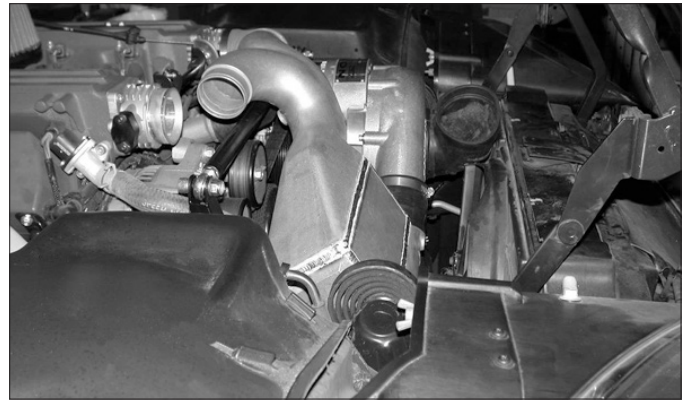

Fig. 9-b
9. Install the aftercooler core assembly between the supercharger discharge and the throttle body. First, attach the 3" sleeve on the supercharger to the cooler, then slide the cooler onto the elbow installed on the driver's side throttle body. Lastly, attach the remaining elbow to the passenger's side throttle body. (See Fig. 9-b.)